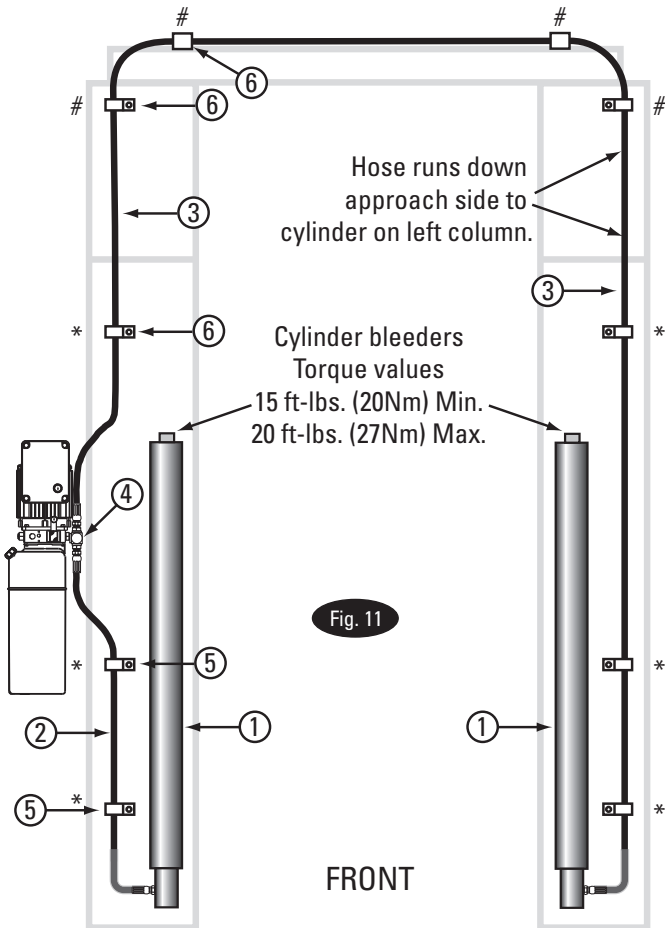

Fig. 11
10. Hoses: Clean adapters and hose. Inspect all threads for damage and hose ends to be sure they are crimped, Fig. 10. Install hose and hose clamps, Fig. 11, Fig.12 & Fig. 16.
Adapter & Hose Installation (see Figs. 11 and 12)